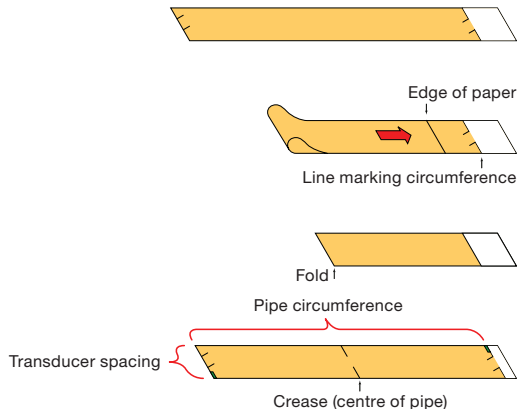

Fig. 18 Bisecting the pipe circumference
- 2) Mark the intersection of the two ends of the paper to indicate the circumference. Remove the template and spread it out on a flat surface. Fold the template in half, bisecting the circumference. See *Fig. 18*.